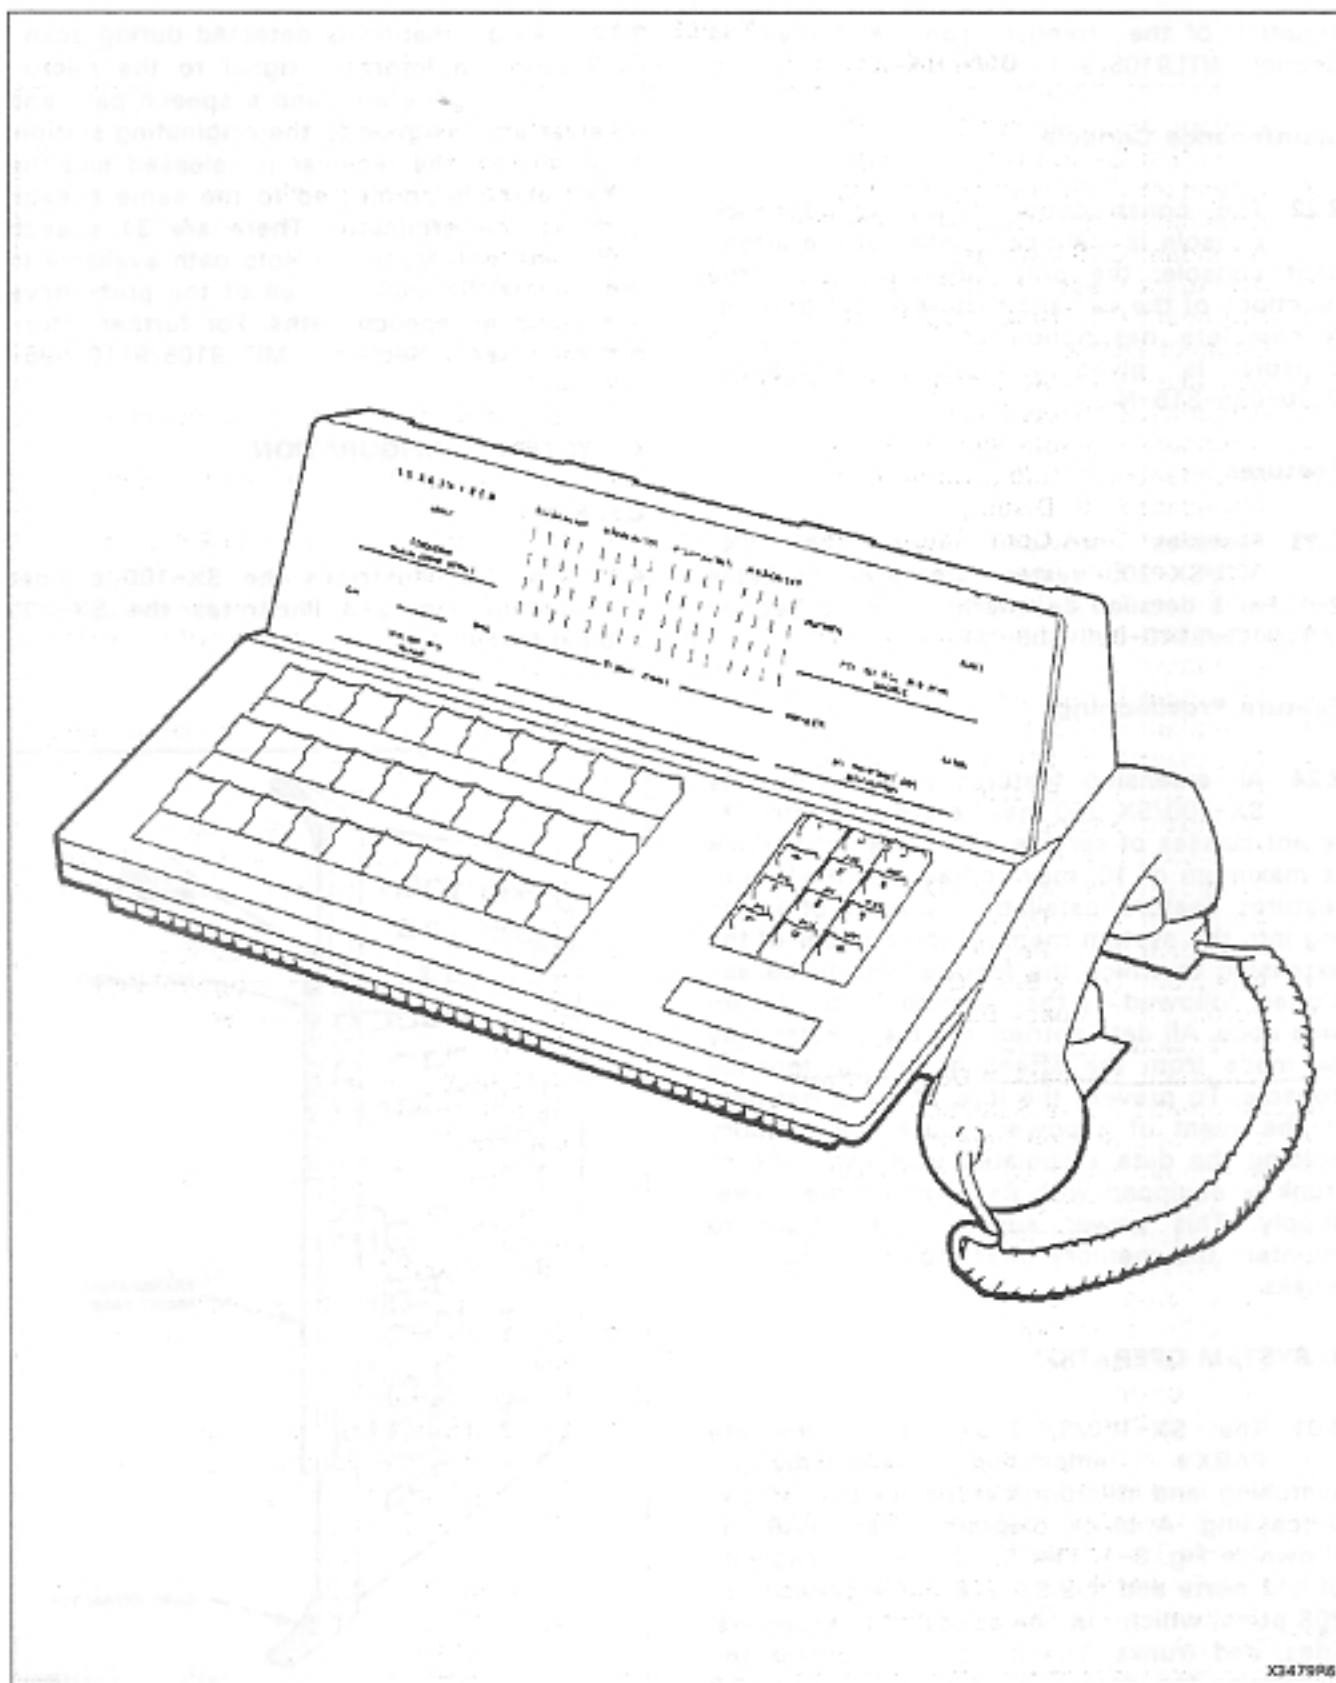

Fig. 2-7 Attendant Console
2.21 The SX-100/SX-200 attendant console (Fig. 2-7) is enclosed in a housing with a smoked plastic faceplate. Located on either side of the console are a pair of headset/handset jacks allowing simultaneous operation and supervision. The console keyboard holds three rows of ten nonlocking keys for the selection of features and completion of calls. On the right of the keyboard is a 12-key pushbutton dial pad. The console display, mounted above the keyboard, displays the active states of calls in progress. In addition to the call status display is a busy lamp field, a trunk group status field, a call waiting indicator, a digital clock and three alarm indicators. The weight of the attendant console is approximately 5.0 lb (2.27 kg) and its dimensions are: 13.75 in. (350 mm) wide, 6.8 in. (176 mm) high, 9.25 in. (236 mm) deep. A complete de-
4.04 The layout of the SX-100/SX-200 attendant console is shown in Fig. 2-7. Three rows of buttons on the console faceplate are used to select and handle calls. Each button has a light-emitting diode (LED) associated with it to indicate the operational status of the button.